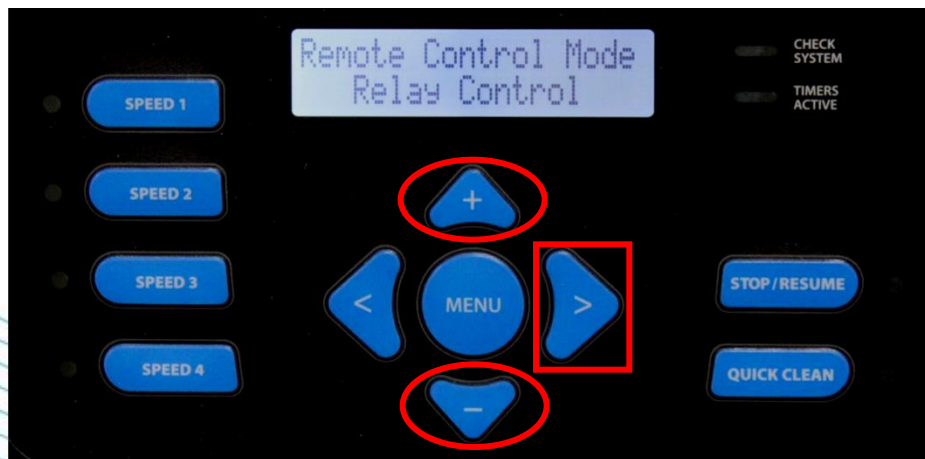

Figure 36
12. You will now see the Remote Control Mode screen. Use the  &  buttons to toggle between Stand Alone (default) or Relay Control (other controls including third party models) (fig 36 & 37). Press the  button to continue.